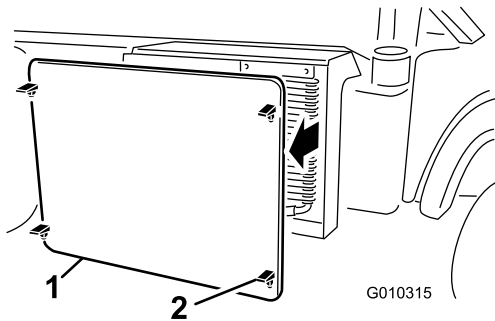

Figure 58
2. Unlatch and remove the radiator screen from the front of the radiator (Figure 58).